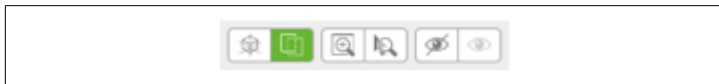

Figure 3-10. The Mate icon
2. Click the Mate icon (Figure 3-10).